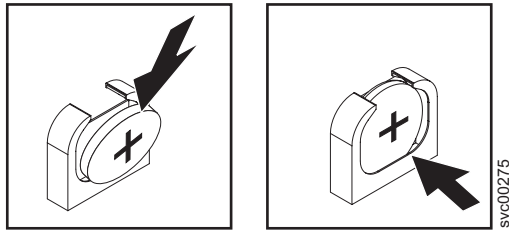

Figure 138. SAN Volume Controller 2145-CG8 or 2145-CF8 CMOS battery holder
- b. Press the battery across into the socket until it clicks into place. Make sure that the battery clip holds the battery securely, as shown in Figure 138 on page 147.